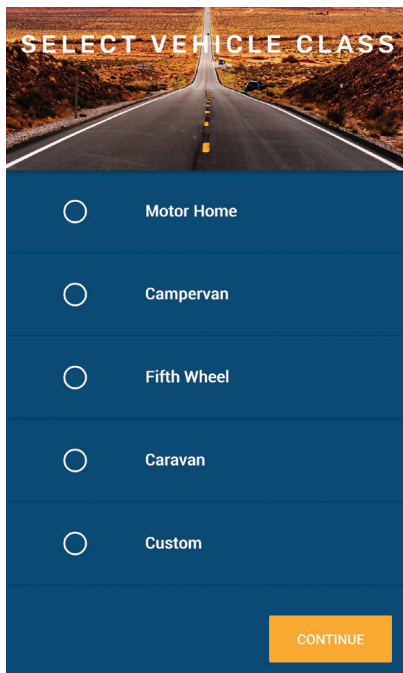

Fig.8
9. Select a vehicle class (**Fig.8**) and press “Continue.”